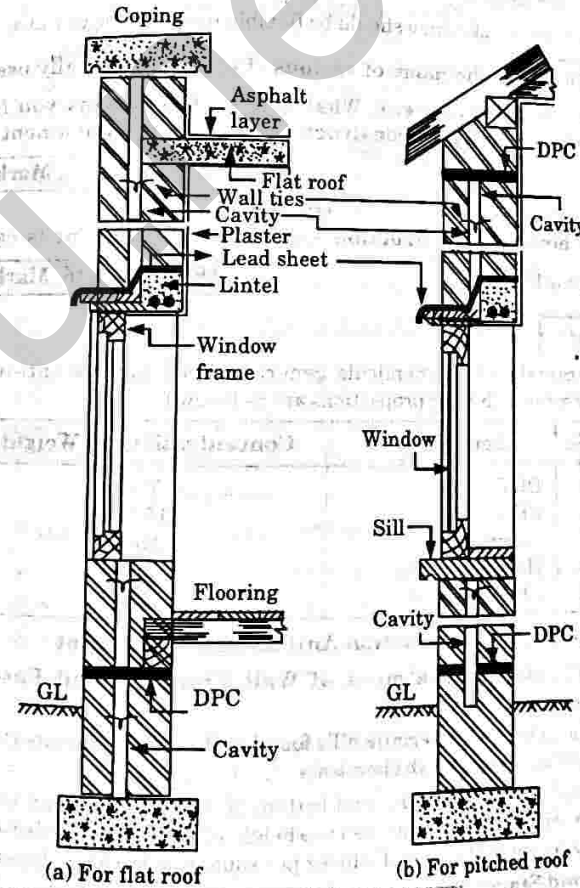

Fig. 3.9.1. Brick cavity walls.
1. Fig. 3.9.1 shows the vertical sections of various types of cavity walls for flat and inclined roofs.